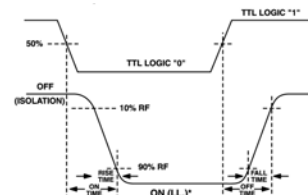

Figure 3a - Detected RF Power
**Rise Time And Fall Time:** These parameters, fundamental to many designs, are actually composed of several subsets, each one defining the time required for switching to take place between two states in the switch response (Figure 3a). Rise time is defined as the period between full "off" and full "on," specifically from 10 percent of this condition to 90 percent of the square-law-detected RF power. Conversely, fall time is the period between 90 percent of full "on" to 10 percent of full "off." Rise time and fall time do not include driver propagation delays.